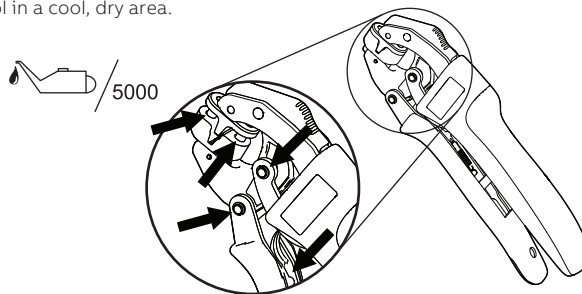

Figure 7
3. Make certain all pins, pivot points, and bearing surfaces are protected with a THIN coat of any good SAE No. 20 motor oil. DO NOT oil excessively (Figure 7).